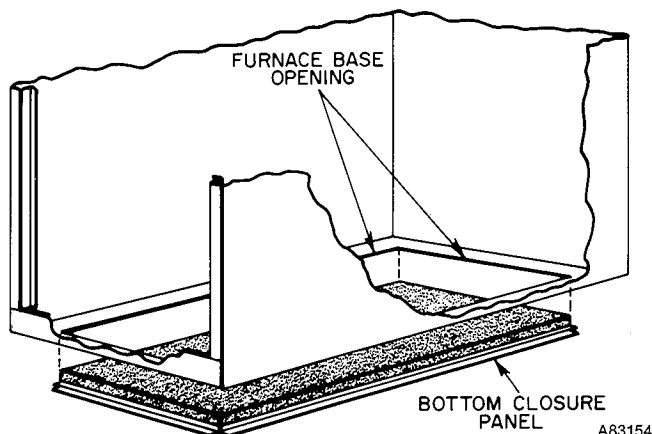

Fig. 9—Installing Bottom Closure Panel
2. With furnace either tilted or raised, install panel in opening from bottom of furnace with insulation up. See Fig. 9.